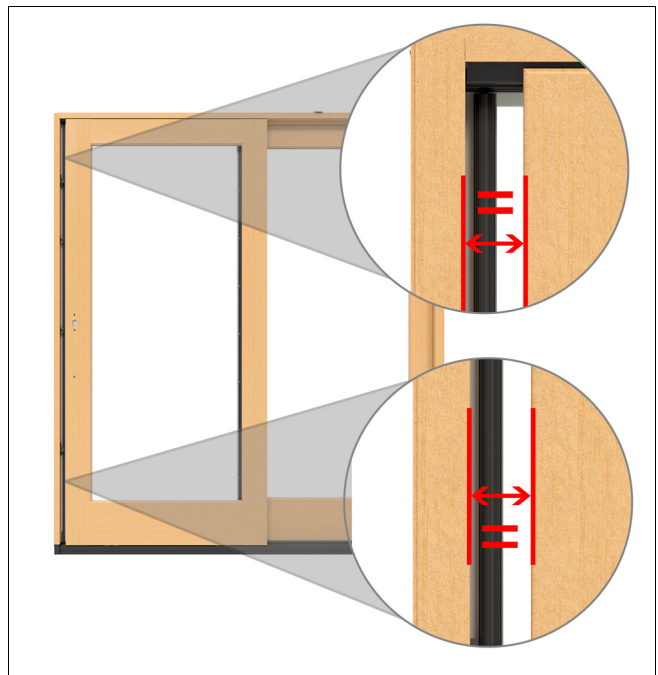

Figure 43 OX configuration shown. Consistent reveal along the locking stile of operating panel.
**1. Panel Adjustment:** Slide the panel close to the locking jamb or meeting stiles. Observe the vertical gap between the panel and the jamb (or meeting stiles). The gap should be equal along the panel. Also, observe the horizontal gap at the top of the panel. See Figure 43.